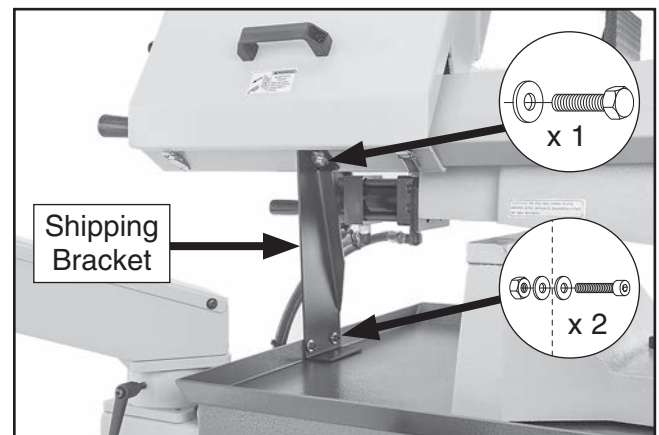

Figure 13. Shipping bracket.
1. Remove upper hex bolt and two lower cap screws that secure shipping bracket shown in **Figure 13**.